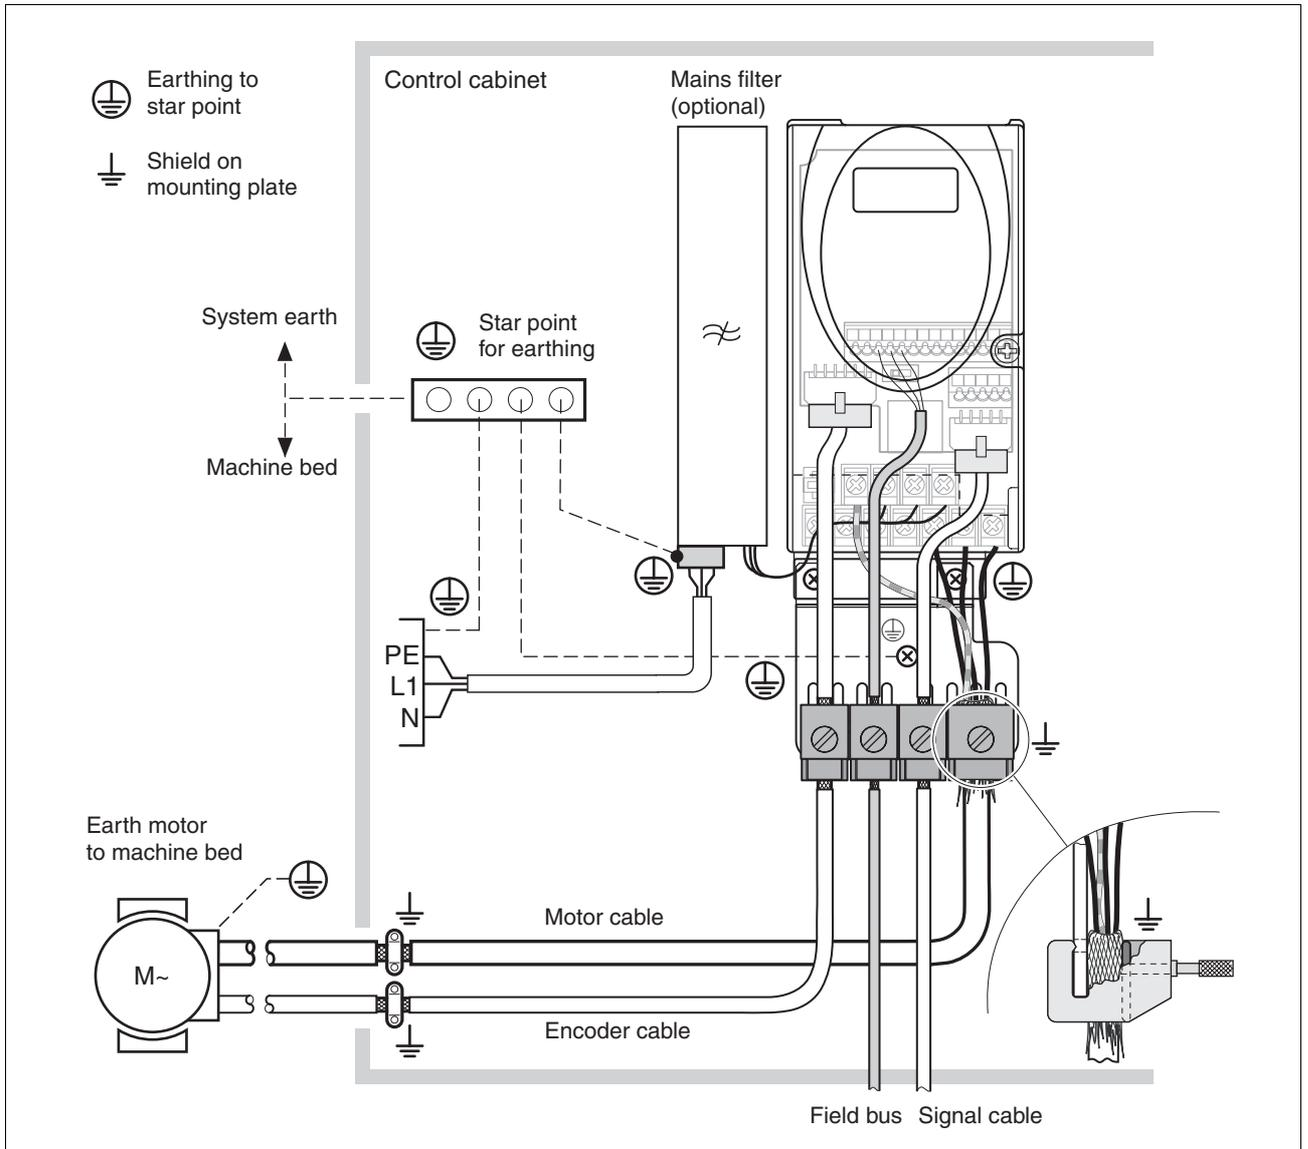

Figure 6.1 EMC measures1
- ▶ Attach the EMC plate at the bottom of the device, see also Figure 6.1, or use alternative attaching elements (comb bars, shield clamps, bus bars).